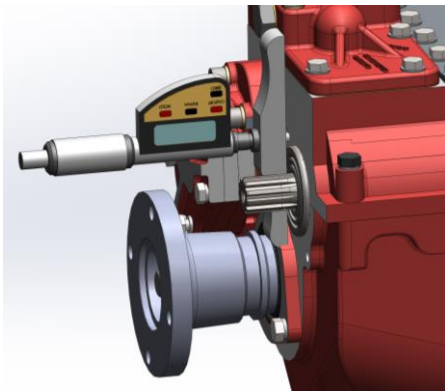

Fig. 13
1. Press the bearing outer cup firmly into position and measure between the face of the gear case and the top of the bearing cup as shown in Fig. 13.